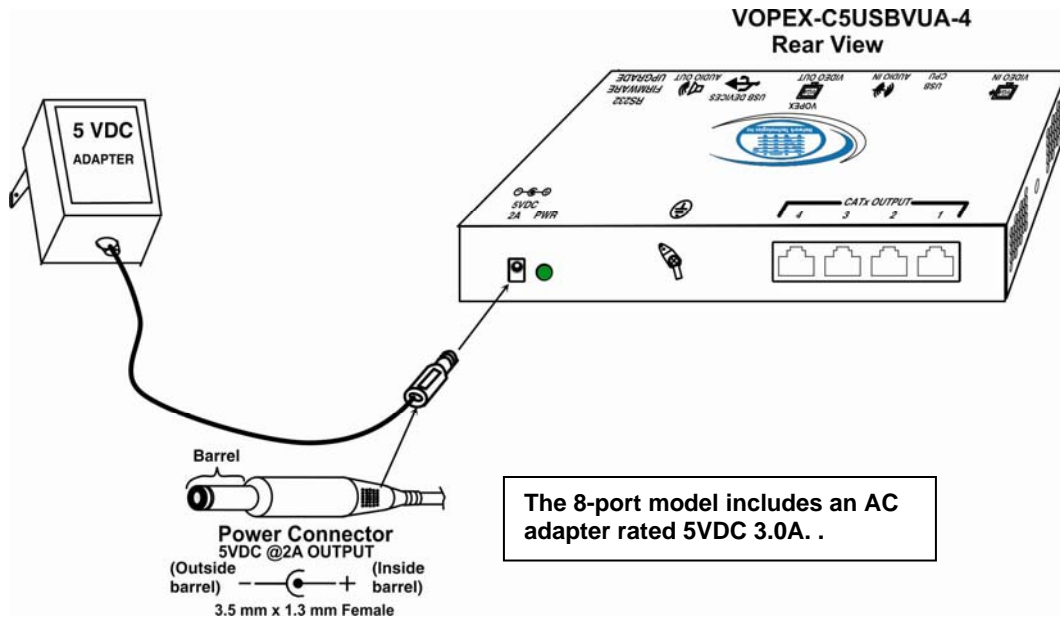

Figure 6- Connect the AC adapter to a VOPEX
5. Plug the AC adapter into a power outlet. The green LED on the VOPEX should illuminate, indicating that a proper power connection has been made. (See Figure 6)